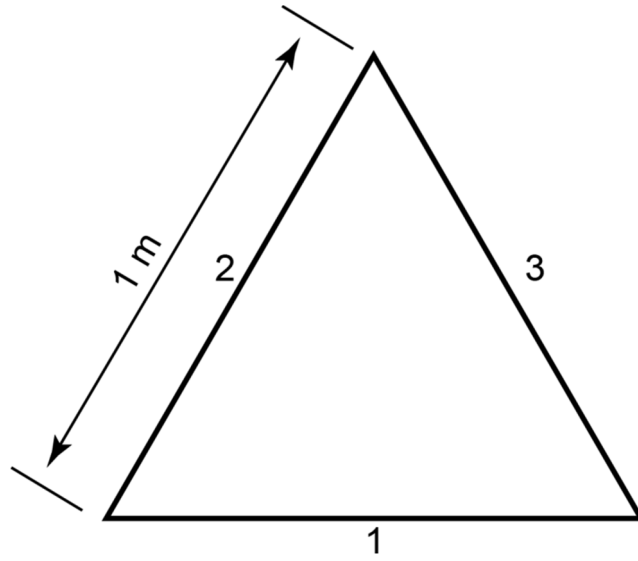

Figure Q.2
2. **Figure Q.2** shows a two-dimensional equilateral triangular geometry whose surfaces are numbered 1, 2 and 3 as shown. All sides are 1 m in length. The blackbody emissive power of surfaces 1, 2 and 3 are E_{b1} , E_{b2} and E_{b3} respectively. For an enclosure with n grey surfaces, the radiosity of the i th surface is linked to other radiosities via the equation: